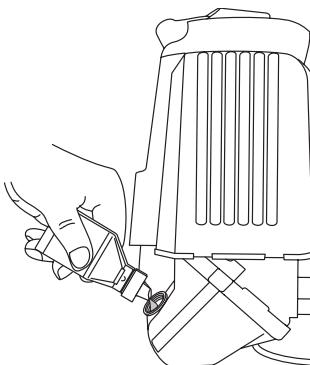

Fig. 25
**NOTE:** Use the bottle and spout saved from initial use to measure the correct amount of oil. The top of the label on the bottle measures approximately 3.04 ounces (90 ml) (Fig. 25). Check the level with the dipstick. If the level is low, add a small amount of oil and recheck. Do not overfill (Fig. 25).